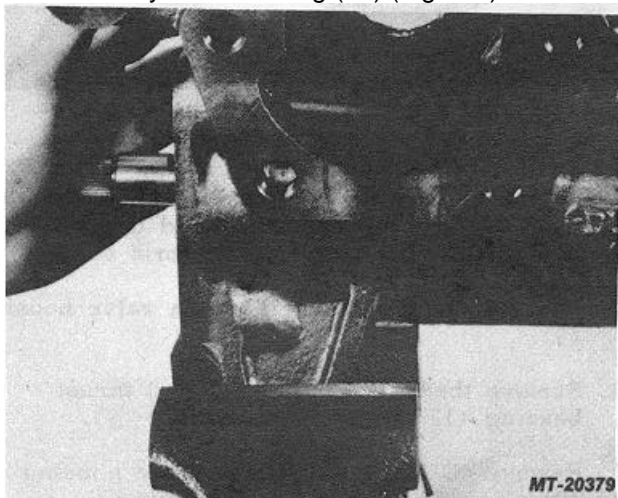

Fig. 13
25. Loosen sealing nut (3) and adjusting screw (2) in valve housing (9) approximately two turns.
26. Remove rack piston (31) and worm shaft (17) assembly from housing (20) (Fig. 13).